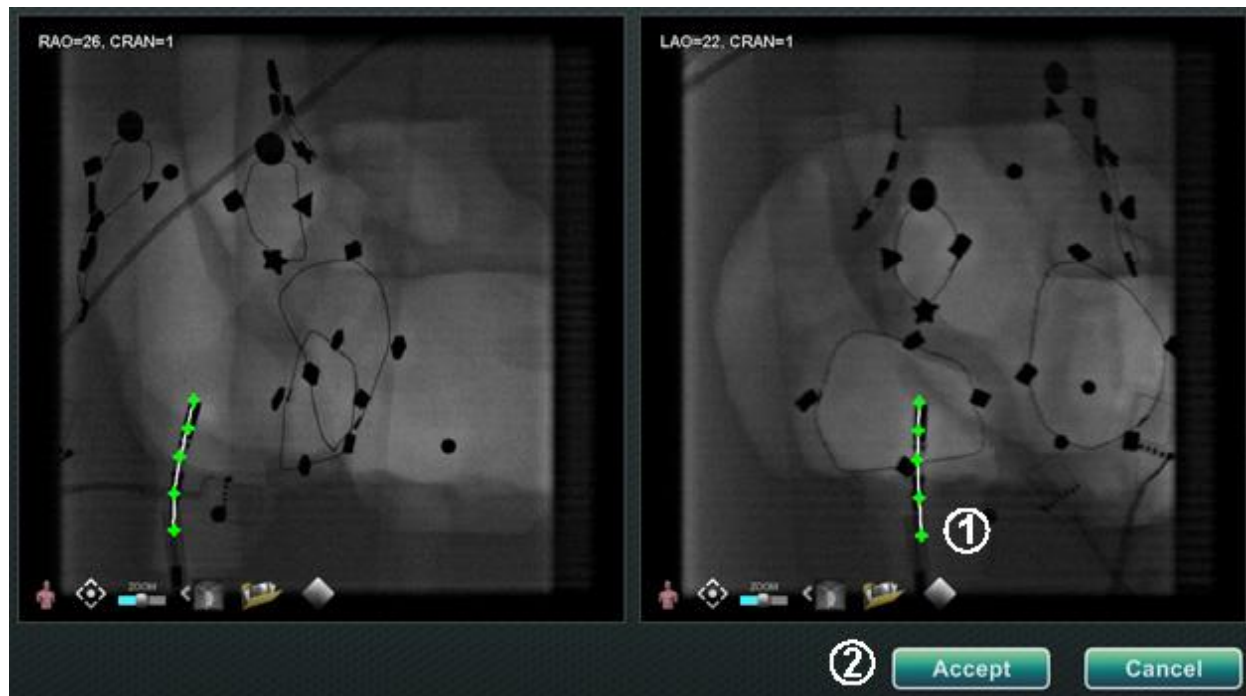

Figure 207. Fluoro annotation on *Navigant* screen – Fluoro images A and B
- ① When you move the cursor to Fluoro Image B, a yellow dotted line displays to guide you to the proximal point on Fluoro B (at the longitude of the proximal point you marked on Fluoro A).
- ② Mark the proximal point on Fluoro B at the intersection of the yellow line and the catheter. The marker turns green when it is in the correct location (**Figure 207**) (otherwise it is red).
- ① Continue marking points as the epipolar line moves. Your objective is to match the points on Fluoro B with the points on Fluoro A. The points on Fluoro A turn green as you select corresponding points on B.
- ② When you have marked all points correctly, the **Accept** button turns green (**Figure 207**). Click **Accept** to display the vessel(s) in the Fluoro Images A and B windows.